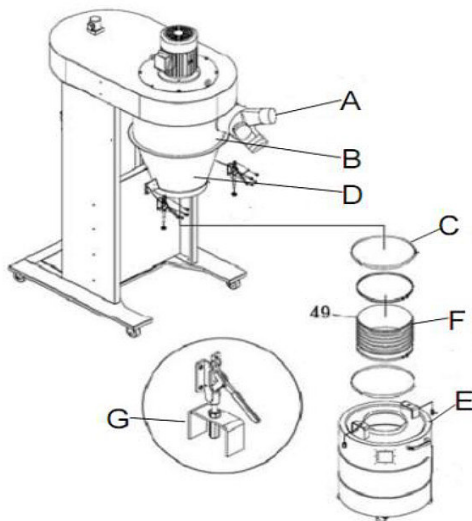

Fig. 10: Assemble collecting tank with cyclone hopper
Step 12: Mount the suction nozzle (A, Fig.10) to the housing (B, Fig.10).
Step 13: Insert the hose ( F, Fig.10) between the collection container ( E, Fig.10 ) and cyclone hopper ( D, Fig.10) and secure it with the hose clamp (C, Fig.10).
Step 14: Attach the quick release fastener (G, Fig.10) to the cyclone hopper ( D, Fig.10) and use the M10 nut to secure the other end of the quick release fastener ( G, Fig.10) to the hopper lid (E Fig.10).